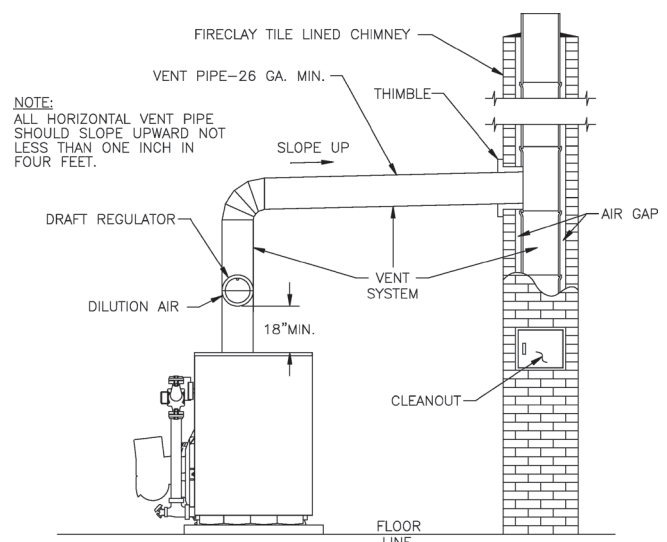

Figure 15: Recommended Smokepipe Arrangement and Chimney Requirements
- J. INSTALL SMOKEPIPE** — The CL Series boiler should be vented into a fireclay tile-lined masonry chimney or chimney constructed from type L vent or a factory built chimney that complies with the type HT requirements of UL103. The chimney and vent pipe shall have a sufficient draft at all times, to assure safe proper operation of the boiler. See Figure 15 for recommended installation.